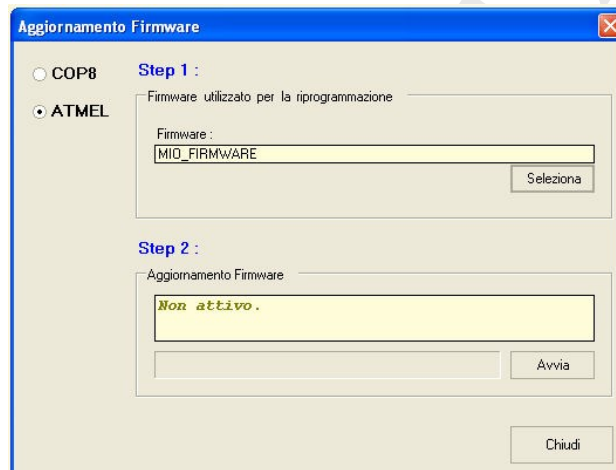

fig. 39
- D. Select the file containing the stove's operating program, see *figure 39*.